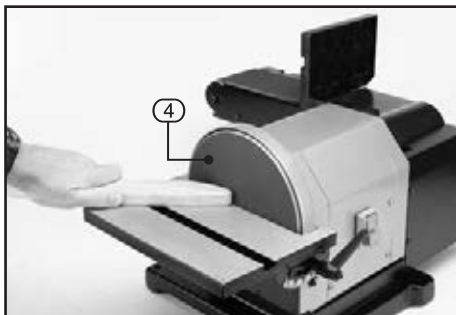

FIG.14
9.5 OUTSIDE CURVE SANDING - FIG. 14